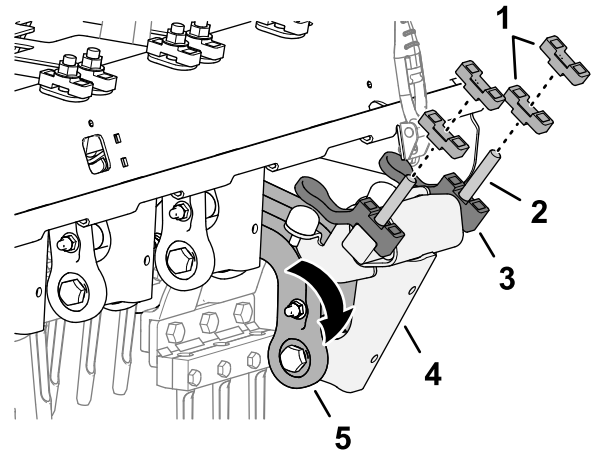

**Figure 132**
1. Remove the 2 flange locknuts that secure the roto-link dampener shaft to the rear frame of the machine (Figure 132).